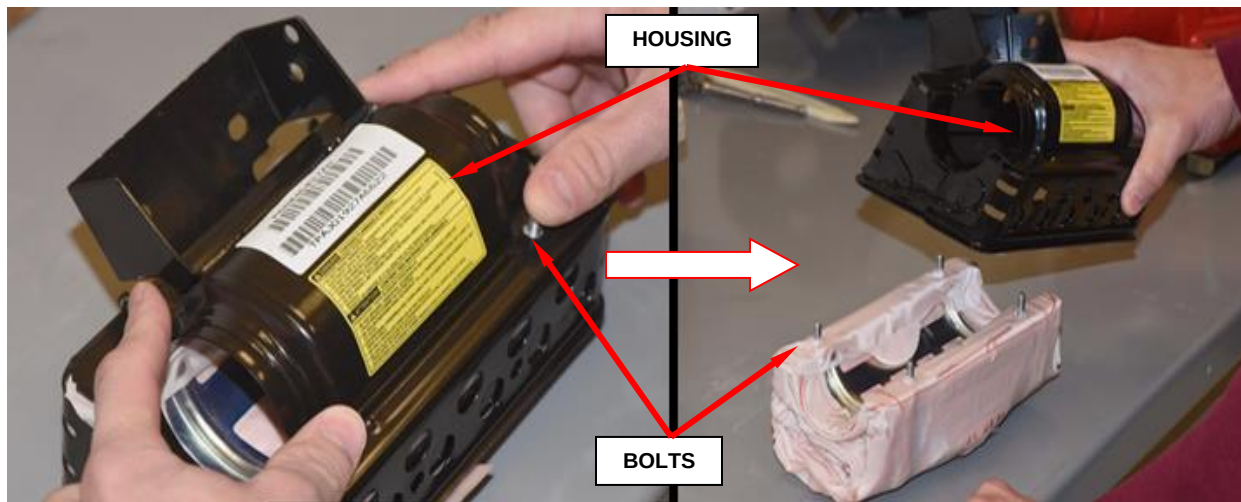

Figure 98 - Remove Airbag Cushion from Housing
- h. Remove airbag cushion from housing by applying pressure to the bolts, set cushion aside (Figure 98).